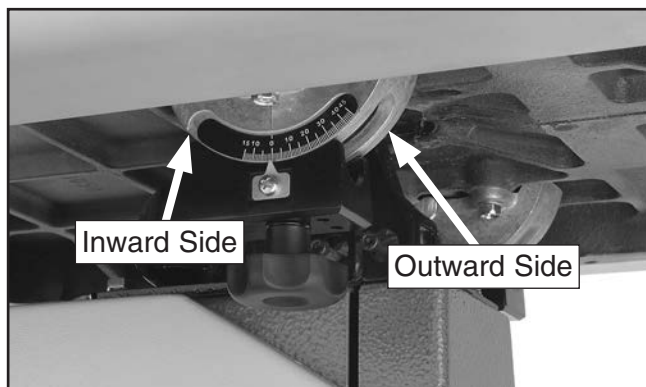

Figure 58. Sides of table trunnions to grease.
2. Wipe the old grease off the bearing surfaces of the table trunnions. Start with the outward side of the table trunnions (**Figure 58**) when the table is at 0°, then tilt the table to 45° and wipe off the inward side. The old grease will be contaminated with sawdust, so you want to remove as much of it as you can.